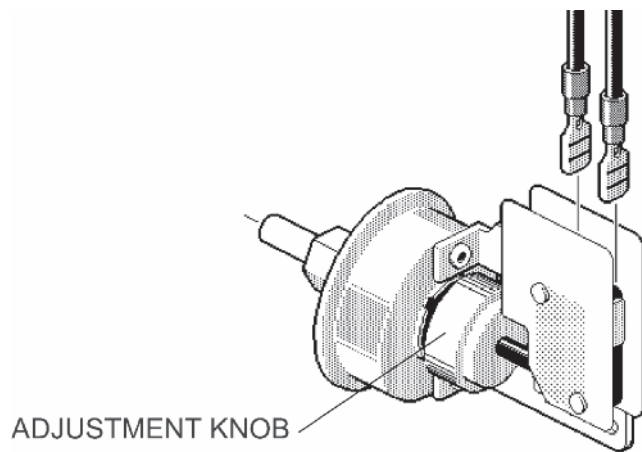

Fig. 30: Pressure Switch Adjustment
5. Manually turn the pressure adjustment knob clockwise (see Fig. 30) until the heater shuts off. (A flat screw driver may be necessary if knob is too tight).